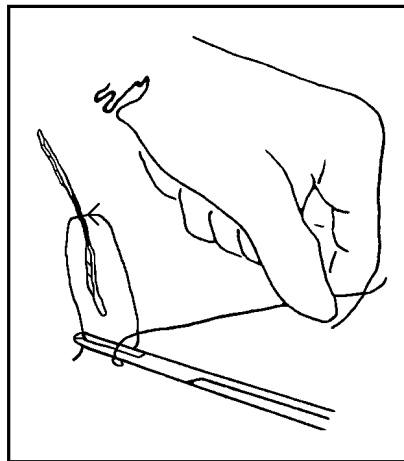

Figure 3-38
- (9) Grasp the short end of the suture, pulling it through the loop. (See Figure 3-38.) Pull down with equal pressure, keeping the suture material parallel to the skin.